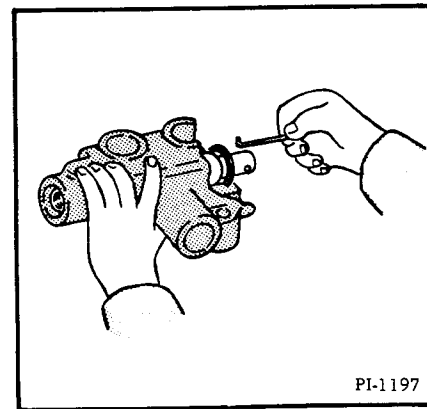

Fig. 14 Removing the Front Seal
(3) Push the spool into the housing from the front of the valve until the front seal is exposed, then remove the front seal (Fig. 14). A length of bent wire works well for this. Be careful not to damage the spool or housing.